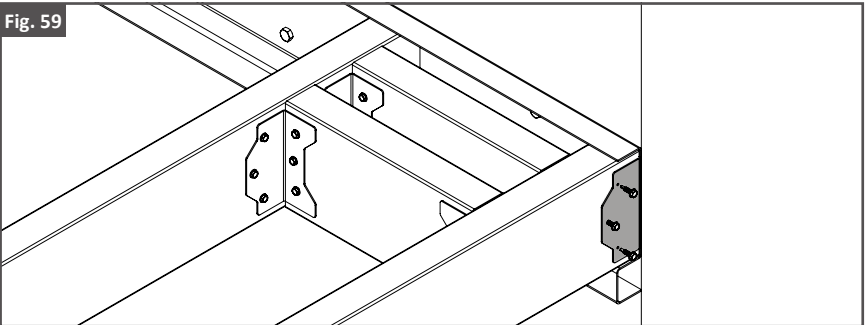

Fig. 60
5. Position an F-10 Bracket onto the top face of the Beam and the internal side face of each Joist in both Joist assembly openings. As shown in Fig. 60.